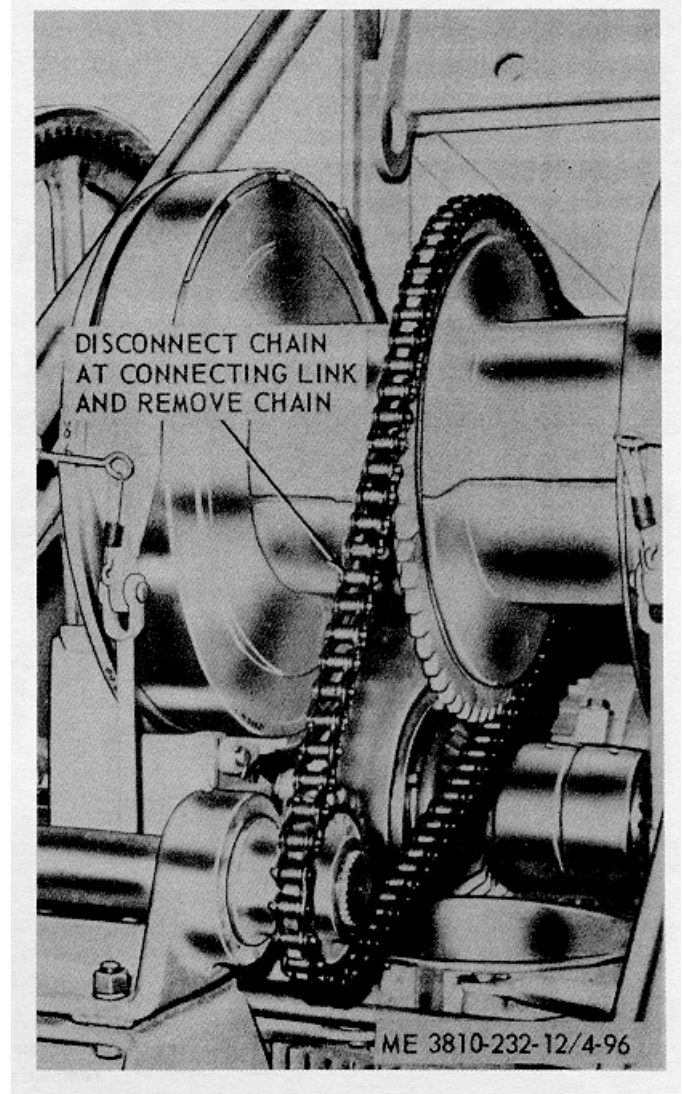

Figure 4-96. Power load lowering drive chain removal and installation.
(2) Install the primary drive chain case cover (para 4-106).
a. *Removal.* Remove power load lowering drive chain as illustrated in figure 4-96.
as illustrated in figure 4-96